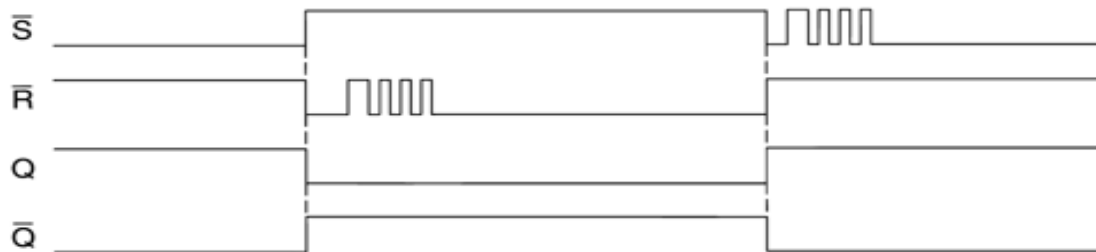

**Figure 5.6**
**What is it?** Push-button switches have metal contacts that make and break the circuit and since at least one of the contacts is on a movable strip of metal, it has springiness. Because the moving contacts have mass and springiness with low damping they will be **bouncy** as they make and break. That is, when a normally open pair of contacts is closed, the contacts will come together and bounce off each other several times before finally coming to rest in a closed position as shown in Figure 5.6. In logic circuits, it causes several pulses instead of one.